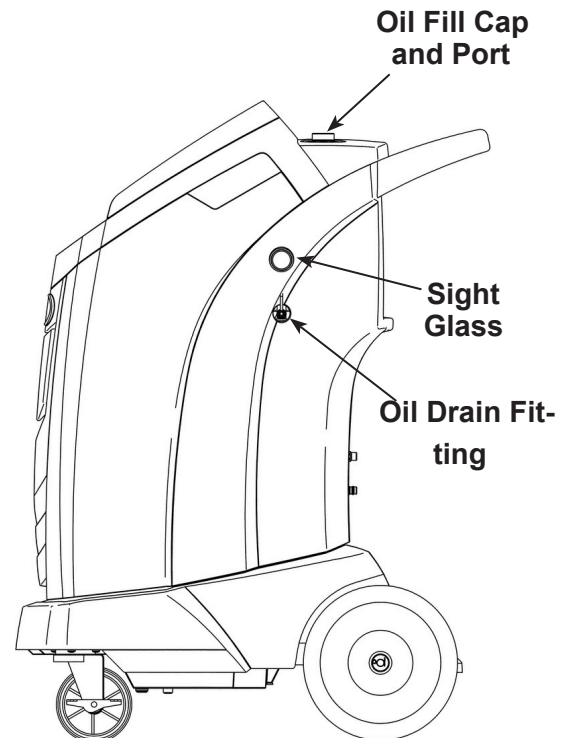

Figure 9
4. remove the cap. See Figure 9.